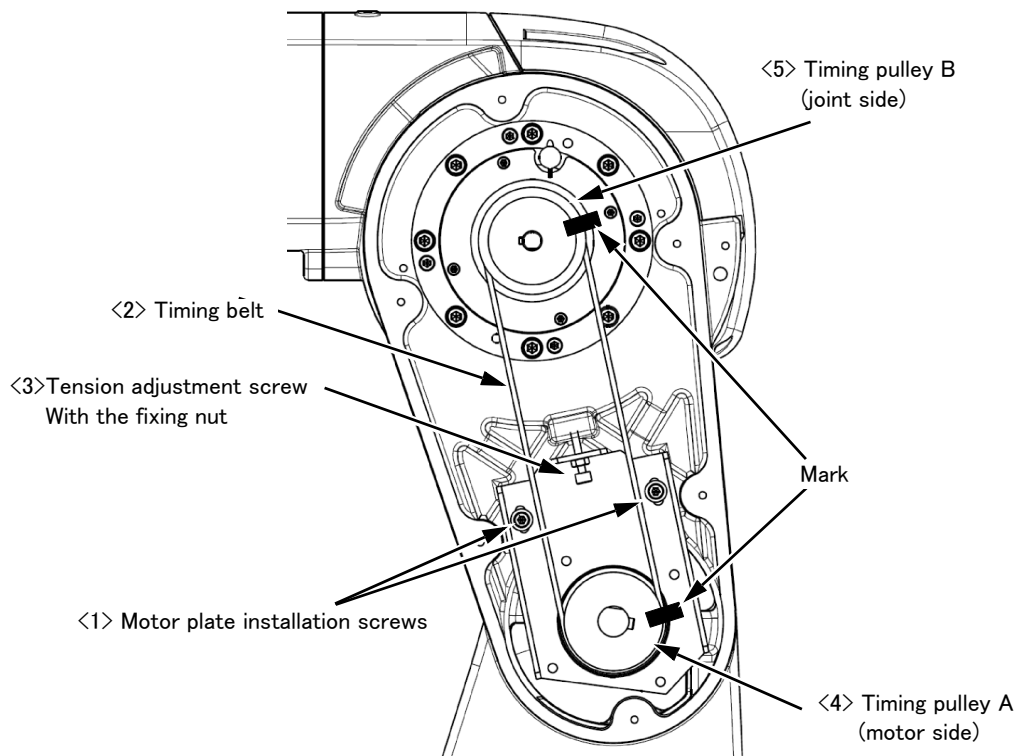

Fig.5-19 : Inspection and replacement of J3 axis timing belt (RV-4FR/7FR series)
The reference figure at inspection and replacement of the timing belt is shown in Fig. 5-19.
- 4) Make marks on the timing belt <2> and timing pulleys <4> and <5> with a felt-tip pen as shown in Fig. 5-19 so that the engagement of the timing belt <2> and timing pulleys <4> and <5> does not deviate.
- 3) Make marks on the timing belt <2> and timing pulleys <4> and <5> with a felt-tip pen as shown in Fig. 5-19 so that the engagement of the timing belt <2> and timing pulleys <4> and <5> does not deviate.